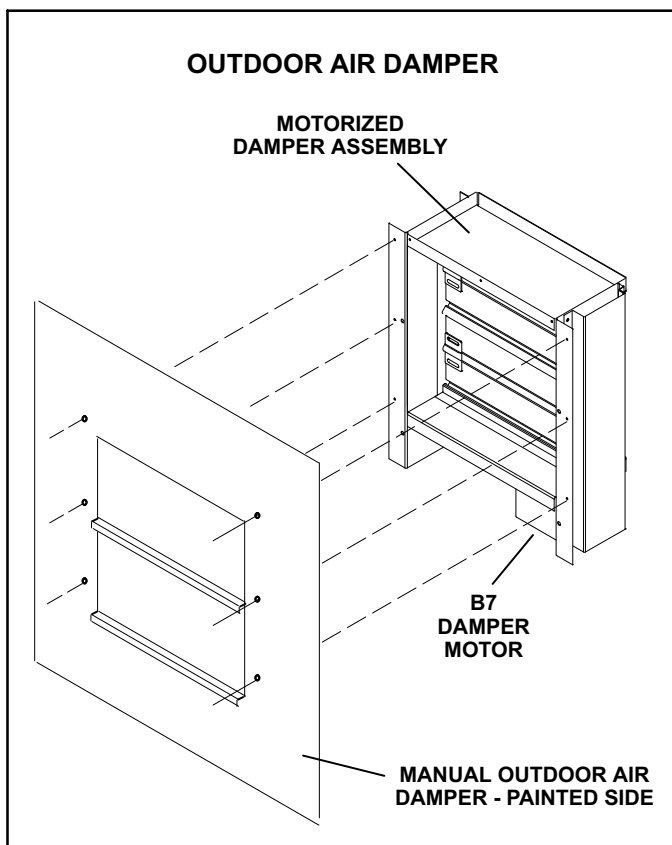

FIGURE 17
T1DAMP11A-1 is available for THA024, 030 036, 048 and 060B units and T1DAMP11N-1 is available for the THA060S and 072S units. Both sets include the outdoor air hood. A motorized kit (T1DAMP21AN1) can be ordered separately for all THA unit sizes. The dampers may be manually or motor (M) operated to allow up to 25 percent outside air into the system at all times (see figure 17). Washable filter supplied with the outdoor air dampers can be cleaned with water and a mild detergent. It should be sprayed with Filter Handicoater when dry prior to reinstallation. Filter Handicoater is R.P. Products coating no. 418.